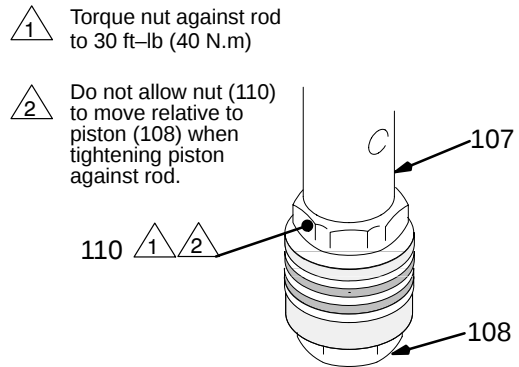

Fig. 20
6. Hand tighten the valve into the piston rod just until the nut (110) contacts the rod. See Fig. 20.
7. Place the flats of the rod (107) in a smooth jaw vise.
8. Carefully tighten the nut (110) against the piston rod to 30 ft-lb (40 N.m). See Fig. 20.